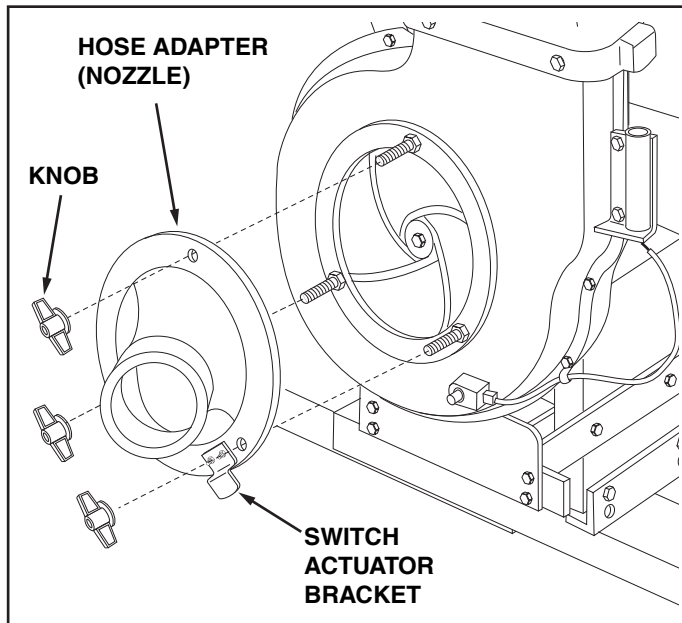

FIGURE 19
33. Assemble the hose adapter (nozzle) to the front of the impeller housing and secure with the three knobs. Make sure that the switch actuator bracket contacts the switch on the housing. See figure 19.